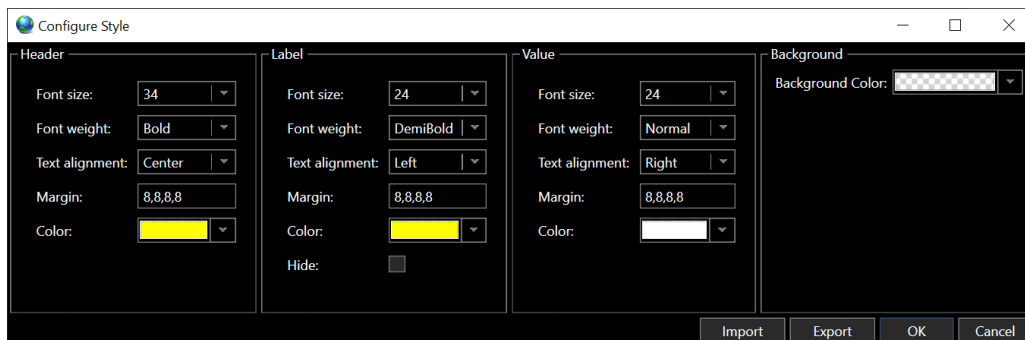

FIGURE 8-5 WINDOWS -TABULAR TEXT SETTINGS CONFIGURE STYLE DIALOG
2. Click **Settings** to open the Configure Style dialog. See Figure 8-5